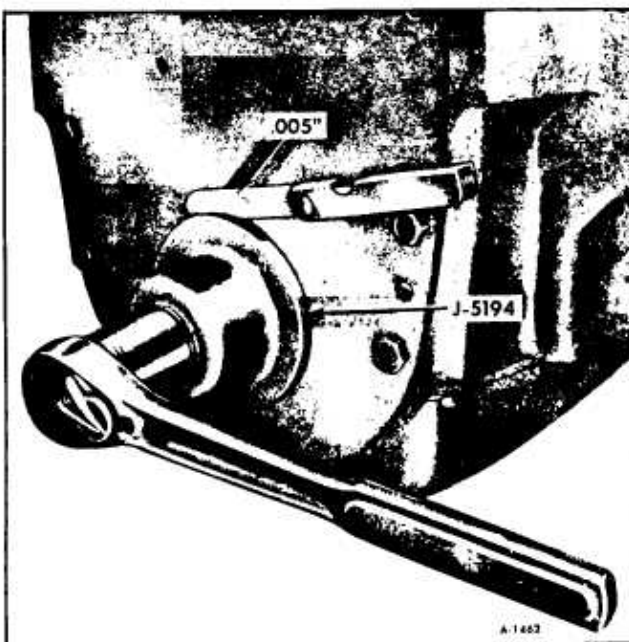

Figure 50—Front Cover Oil Seal Installation
2. Using Tool J-5154, install oil seal as shown in Figure 50. Tighten until .005" feeler gauge will fit between front cover and tool.